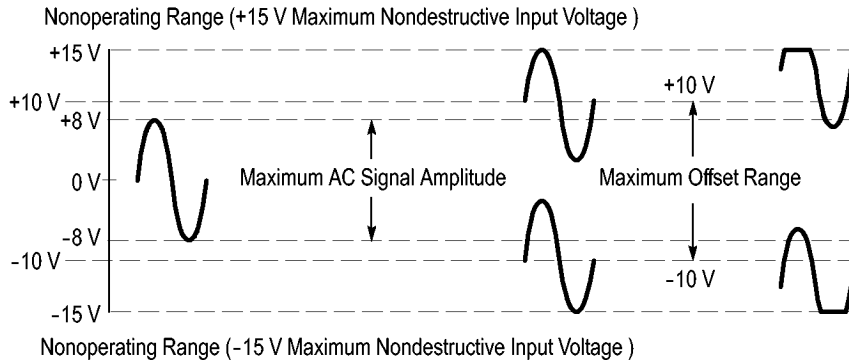

Figure 1: Dynamic and Offset Limitations
The probe is electrically protected against static voltage. However, applying voltages above its design limits may damage the probe tip amplifier. (See Figure 1.)
The probe offset is adjustable to permit operation within the linear range of the probe, and to increase the sensitivity of the probe at higher DC measurement voltages. Using the offset to cancel DC signal components enables optimal probe performance. (See Figure 1 on page 10.)
**NOTE.** The probe has a  $\pm 10$  V offset range. The linear operating range is  $\pm 8$  V. If cursors are used on the oscilloscope, the zero reference will be at the probe offset voltage. (See Figure 1 on page 10.)